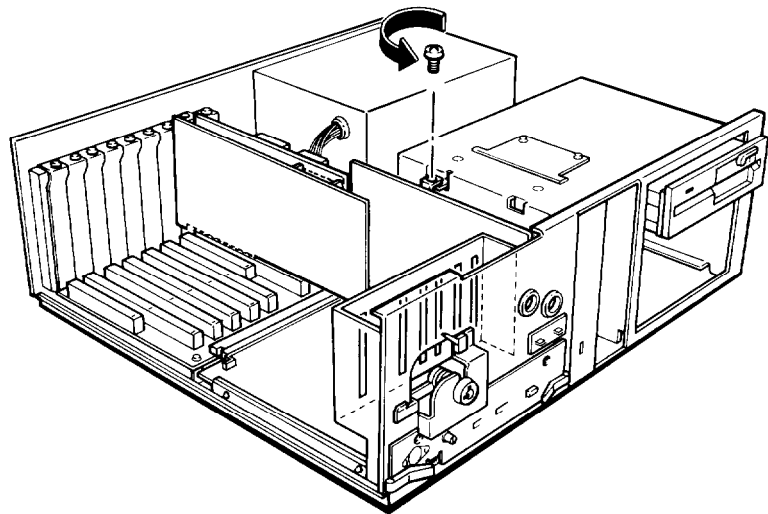

Figure A-3. Removing memory card retaining screw
1. Remove the retaining screw from the bracket on the memory card, as shown in Figure A-3.